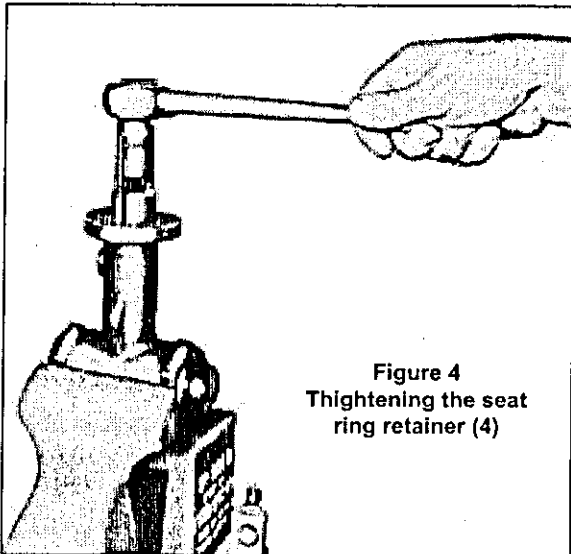

Figure 4
- Carefully apply Never Seez grease (or equivalent) to threads and bottom of retainer (4). With a 9/16" or 14 mm piece of hex stock and a wrench, torque the retainer to 59 ft-lbs (8 daN.m) if a graphite gasket st. st. reinforced, or to 40 ft-lbs (5,5 daN.m) if a glass filled PTFE gasket (See Figure 4).